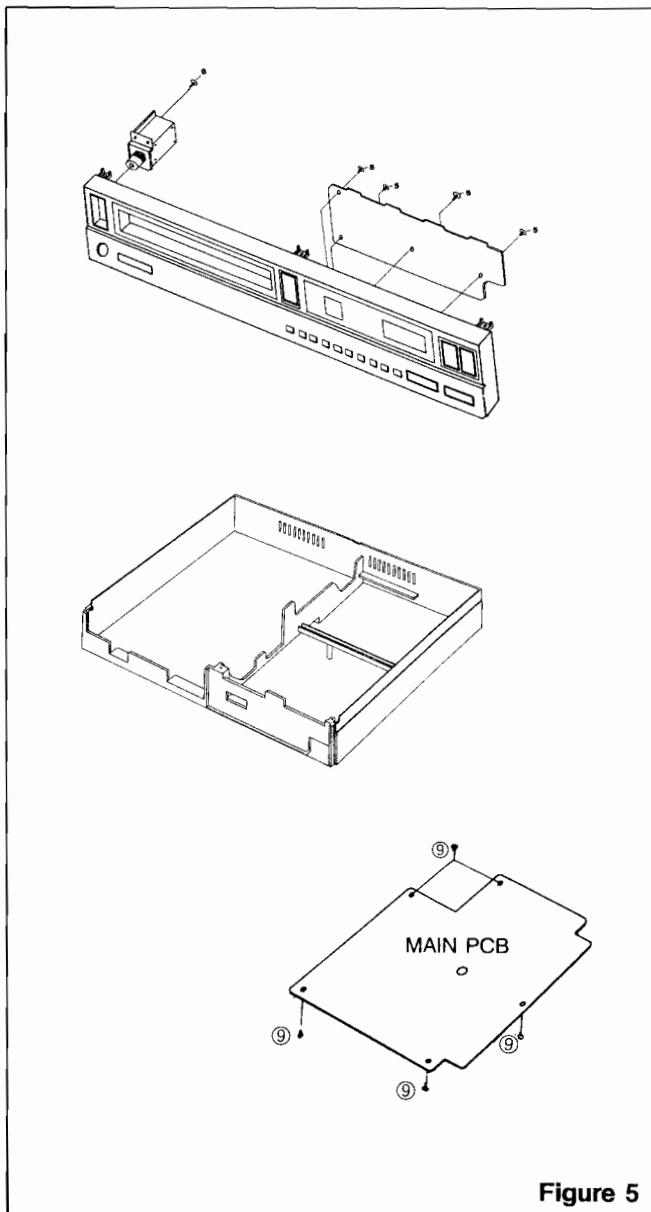

Figure 5
5. To Remove the P.C.B (Figure 5)
(Figure 5)**